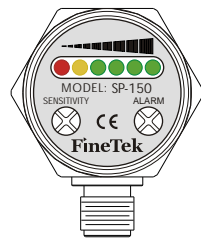

Fig. 5
SP is equipped with 6 LEDs for visual flow velocity monitoring. (See Fig.5)
- (1). Installing the SP on the flow piping.
- (2). Power ON SP and wait for at least 15 seconds for initial warm up.
- (3). a. For open collector output type : Removing two screws of sensitivity and alarm. (See Fig.5)
- (4). Adjust the sensitivity setting counter-clockwise to minimum.
- (5). Adjusting the flow velocity to the minimum acceptable level.
- (6). Adjust the alarm setting until yellow LED and three green LEDs lit .
- (7). Slowly adjust alarm setting clockwise until yellow LED and one green LED lit.
- (8). Slowly decreasing the flow velocity until red LED lit to check the flow velocity of alarm engaged.
- (9). If the velocity deviation between yellow and red LEDs is too large, then adjust the sensitivity setting clockwise to increase sensitivity. Do step (5),(6),(7) again.
- (10). a. For open collector output type : Putting two screws of sensitivity and alarm back.